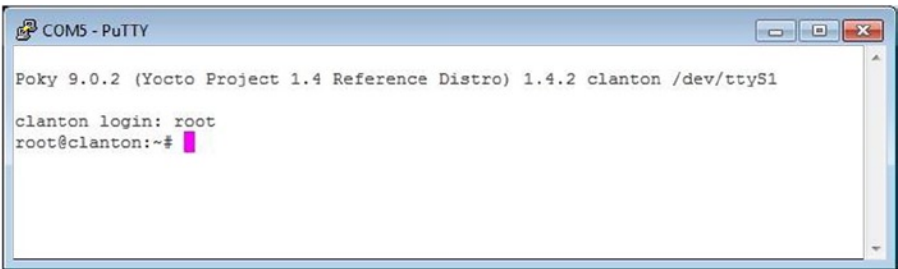

Figure 1-22. The Linux serial console
5. Finally, to access the Linux console, you type username root and press Enter. You will then have access to the Linux console, as shown in Figure 1-22.